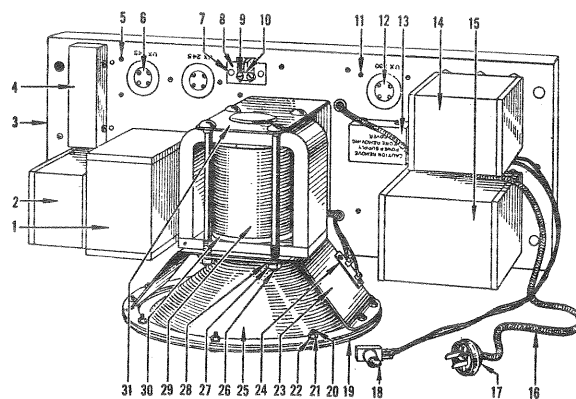

Fig. 3—Top View of Amplifier-Speaker Unit, showing parts.
**2. POWER LINE VOLTAGE**—The power line voltage should be measured with an A.C. voltmeter at the time of installation. If the voltage is consistently below 115 volts, turn off the power, pull out the power plug, remove the metal cover over the fuse in the amplifier unit (see 13, Fig. 3), and change the fuse position to the 110 volt side. If the voltage is 115 volts or above, the fuse should be left
- Shorted or open condenser in condenser bank or faulty connection to condenser bank 1, Fig. 3 and Fig. 15.
- Faulty connection to tapped section of filter reactor, 14, Fig. 3.